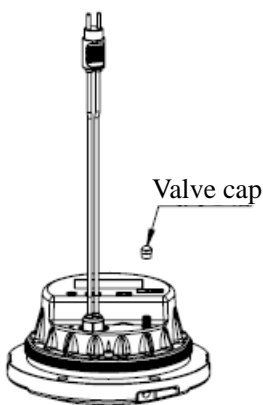

Figure 5-19
- Unscrew the valve cap at the lighting fixture bottom (see Figure 5-19).